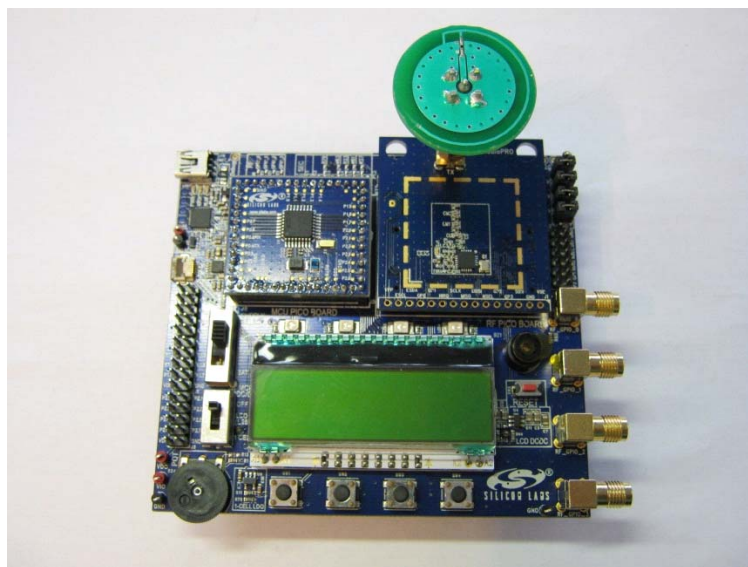

Figure 1. Typical Measurement Configuration—Antenna Board, Pico Board, and Wireless Motherboard
The antenna types in the matrix are selected for the most common application areas in the 868 MHz band. The antennas are optimized and tuned for the antenna PCB + Pico Board + Motherboard (MSC-WMB930 Wireless Motherboard) structure (see Figure 1).
- MSC-WMB930 Wireless Motherboard serves as the driving interface of the Pico Board (Figure 1)